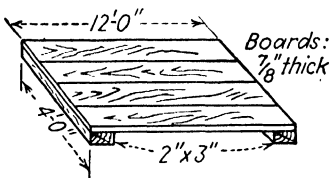

Fig. 307.
37. How many board feet of lumber would be needed to build the platform shown in Fig. 307?